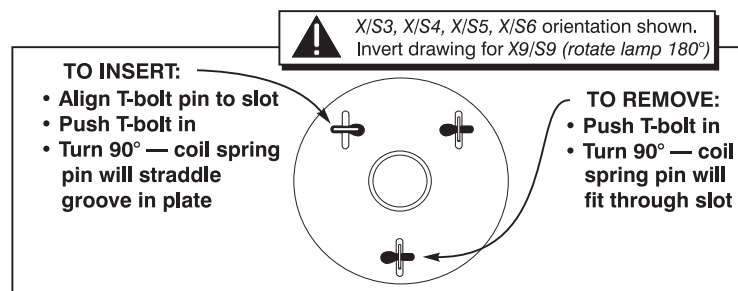

Figure 4.7. Using the T-bolts (INVERT ILLUSTRATION FOR X9/S9)
- Push the lamp all the way back and make sure the pin on each T-bolt aligns with its slot on the alignment plate—slowly turn each until the clearance slot is located. Then push and turn each T-bolt **90°** to lock. See Figure 4.7.